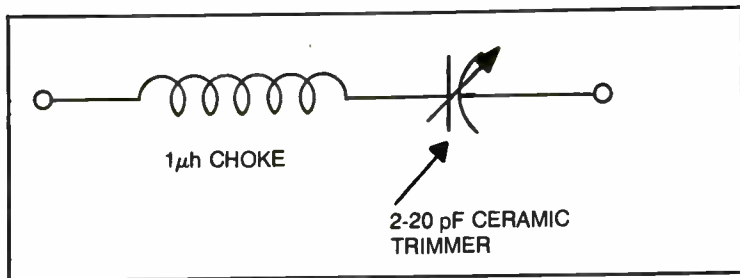

Fig. 20-8. Installation of a tuned filter across the antenna terminals of a TV set.
**CB Interference To TV Channel 2.** Second harmonic interference from a CB transmitter to channel 2 television may exist even though the transmitter meets FCC specifications for harmonic radiation. In such cases, a tuned filter across the antenna terminals of the television should help. The filter may be an inductor and capacitor in series as in Fig. 20-8. The filter should be tuned for minimum interference.